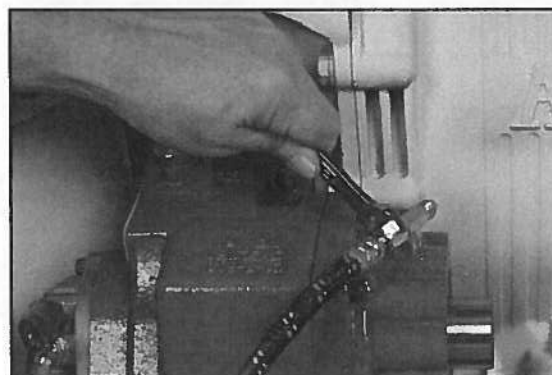

Fig. 16
8. If installing a wet spline output, attach hose to tee fitting on output flange. If Non-Wet Spline Option, attach hose to fitting at PTO valve (**Fig. 16**).